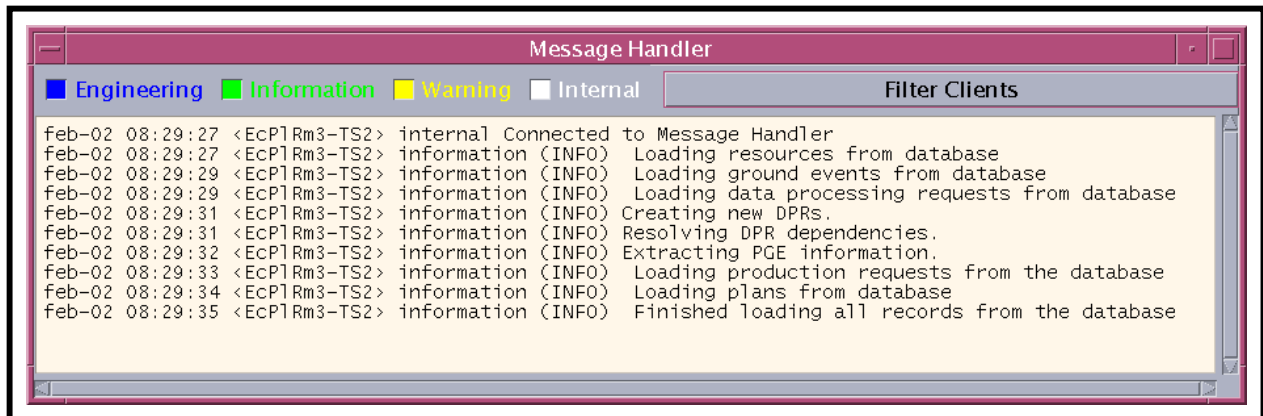

Figure 36. Message Handler GUI
- The **Message Handler** GUI (Figure 36) is displayed.